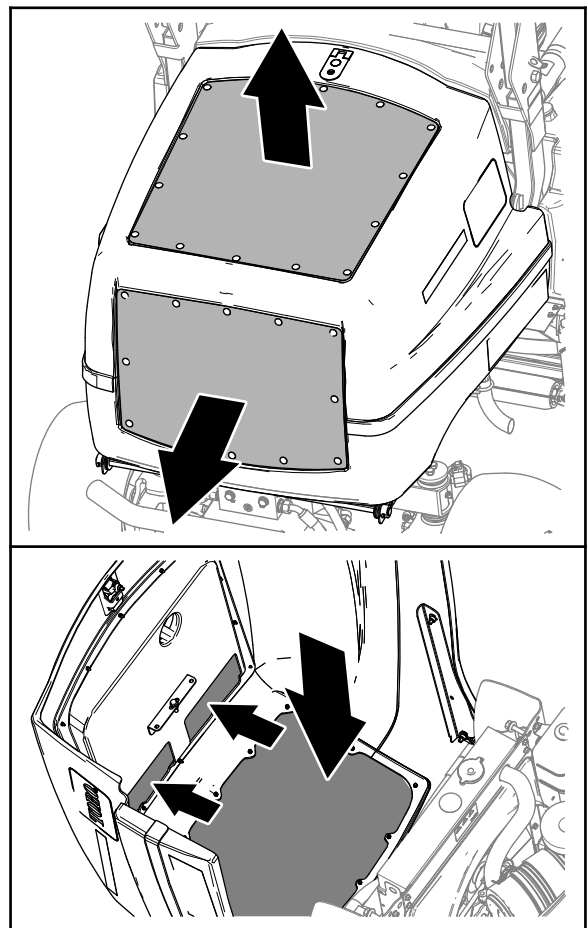

Figure 79
2. Clean the outside of the screens in the hood (Figure 79).
3. Unlatch and open the hood (Figure 79).
4. Clean the inside of the hood screens with compressed air (Figure 79).